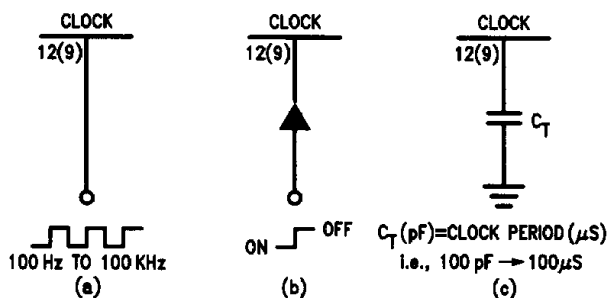

FIGURE 3. Clock Input. External clock (a), controlling internal clock (b), reducing internal clock frequency (c).
CLK 12 (9)	External clock input/internal adjust. The frequency of the internal clock (nominally 100 kHz) may be reduced with an external capacitor or an external clock connected to the CLK input. The logic thresholds for this input are 4 volts for a logic high and 1 volt for logic low. The internal clock can be stopped by applying a logic high, through a diode, to the CLK input. When a logic low is applied to the diode, the internal clock runs freely. (See Figure 3)
In order to control the events that take place in the LMC669, an internal Schmitt trigger oscillator generates a 100 kHz clock. This oscillator's frequency can be lowered by connecting a capacitor between the CLK input and ground as in *Figure 3c*. It can also be overridden by applying an external clock source (≤ 100 kHz) to the CLK input (*Figure 3a*). Further, the clock can be halted with a diode connected as shown in *Figure 3(b)*.